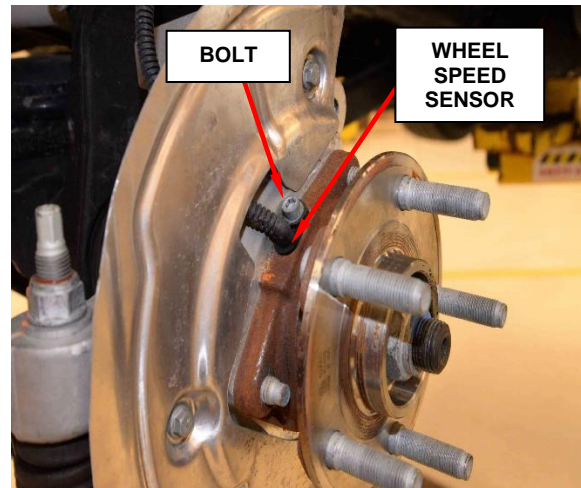

Figure 9 – Speed Sensor
- 13. Clean the wheel speed sensor and surrounding area with shop towel before removing the speed sensor and **DISCARD** the bolt (Figure 9).
28. Install **NEW** front wheel speed sensors bolts and tighten to 7N·m (62In. lbs.) (Figure 9).